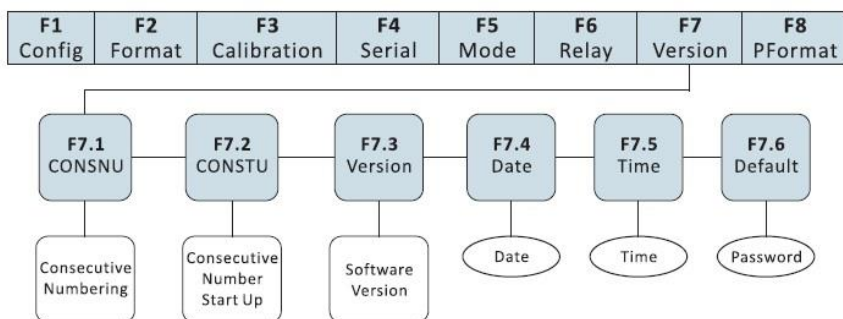

Fig. 15.2.1 F7(Ver) Menu
- (1) Move the jumper of SW2 to CFG setting to switch the indicator to Configurations mode (display will show "F1").
- (2) Press  multiple times until display shows "F7" (see Fig. 15.2.1). Press  to go to "F 7.1" then press  twice until display shows "F7.3".
- (3) When indicator shows "F7.3", press  again, the display will show the current software version like "3.21". Software version cannot be edited.
- (4) Press  to return to main menu.
- (5) Move back the jumper of SW2 to DFT to exit from Configurations mode.
- (2) Press  multiple times until display shows "F7" (see Fig. 15.2.1). Press  to go to "F7.1" then press  multiple times until display shows "F7.6".
- (3) When display shows "F7.6", press . The indicator will ask the 4-digit code to restore the settings to default. The 4-digit code is "0711".
- (4) When the 4-digit code is incorrect, the display will show "Err".
- (5) When the correct 4-digit code is entered, the indicator will display "Set?" There are 2 options:
- (6) Move back the jumper of SW2 to DFT to exit from Configurations mode.